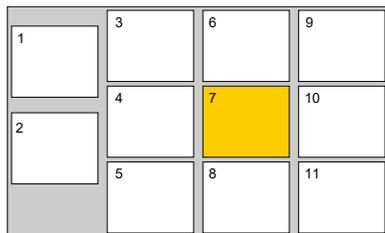

Figure 7 Tip isolator setup.
4. Place a square deepwell plate underneath the tip isolator frame and a rack of 300- μ L tips on top in deck position 11, as shown in Figure 7.